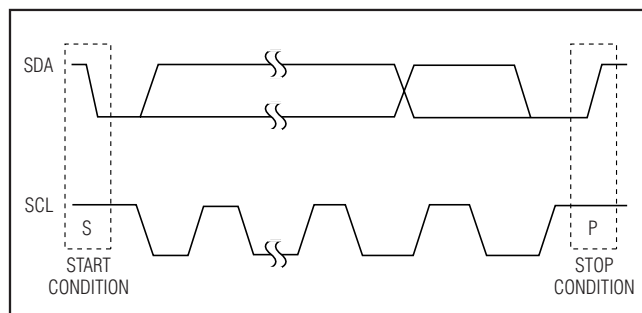
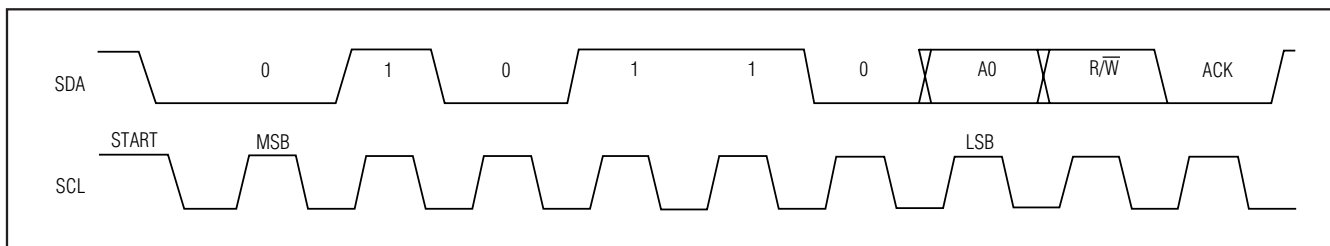

Figure 5. Start and Stop Conditions
Figure 6. Slave Address
Each transmission consists of a START condition (Figure 5) sent by a master, followed by the MAX3353E 7-bit slave address plus R/W bit (Figure 6), a register address byte, one or more data bytes, and finally a STOP condition (Figure 5).
Both SCL and SDA remain high when the interface is not busy. A master signals the beginning of a transmission with a START (S) condition by transitioning SDA from high to low while SCL is high. When the master has finished communicating with the slave, it issues a STOP (P) condition by transitioning the SDA from low to high while SCL is high. The bus is then free for another transmission (Figure 5).